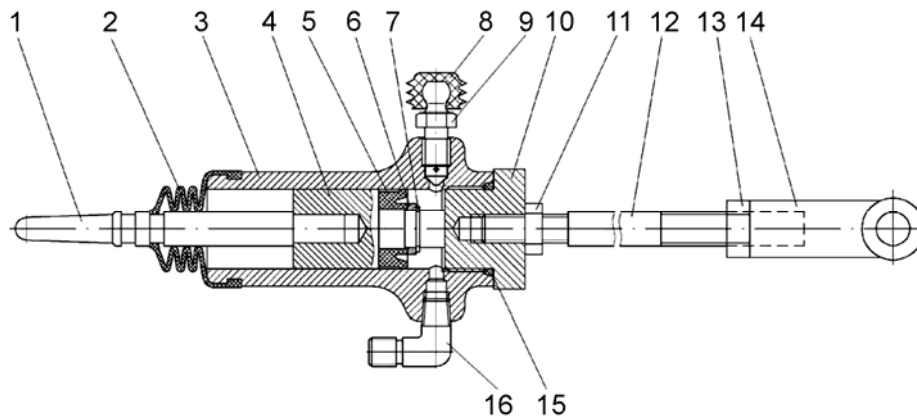

Figure 4.9 Working cylinder
- 1) remove protective cap 8 (Figure 4.9) from the working cylinder;
d) disassembly working cylinder (Figure 4.9), and to do this: